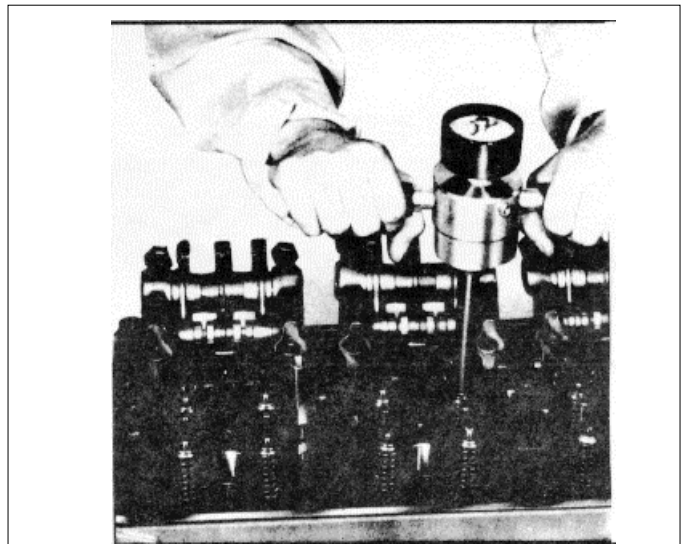

Fig.21
- (11) With the exhaust valves installed in the cylinder head, use spring checking gauge J 25076-01 and note the gauge reading the moment the exhaust valve starts to open (Fig.21).The minimum allowable pressure required to start to open the exhaust valve must not be less than 20 pounds (89 N) for a four-valve cylinder head (two-spring design).
- (12) Install the injectors, rocker arms, shafts, brackets and any other parts previously removed from the cylinder head.
- (13) Install the cylinder head. Refer to PreInstallation Inspection and Install Cylinder Head in SM6-5-5.0.